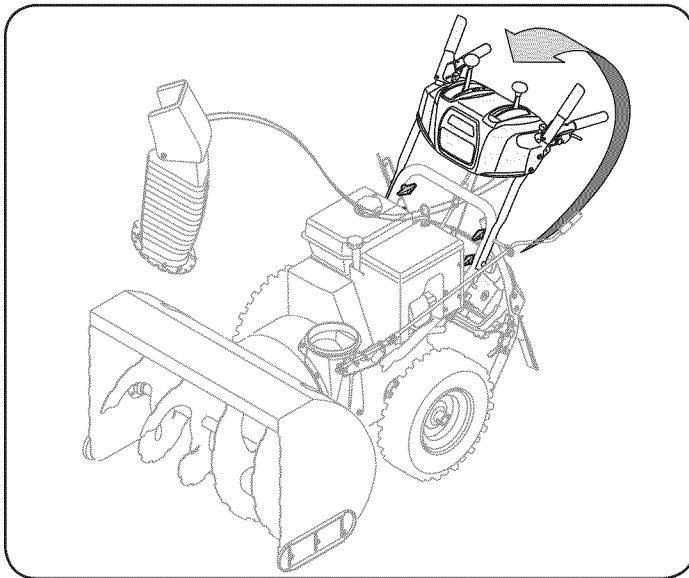

Figure 1
2. Remove the lower plastic wing nut, belleville washer and carriage bolt from each side of the upper handle; then raise the upper handle assembly until it snaps over the lower handle. See Fig. 1.